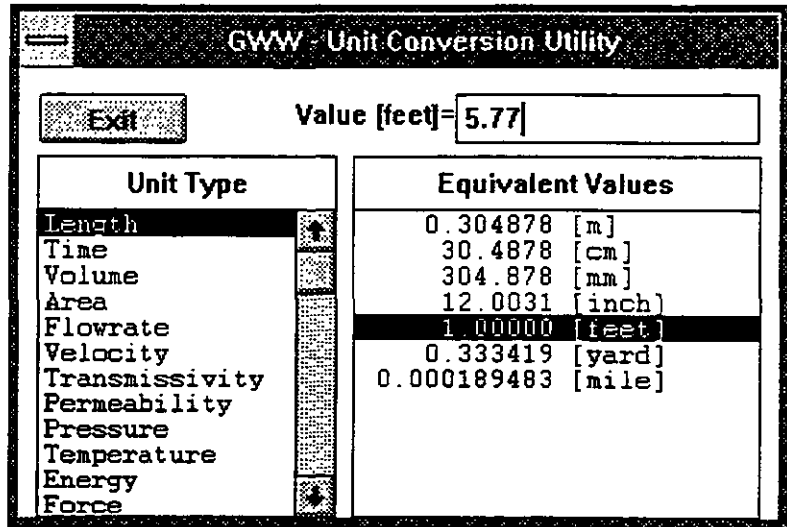

Figure 4-8
2. On the right side of the display, Equivalent Values, click on the line showing feet as the unit. The program automatically replaces the conversion factor with the number 1.00000 and places the same number in the upper window next to the text Value [feet]=. Replace the number 1 with any other number, say 5.77 in this example, and notice the new list of equivalent values, as shown in Figure 4-8.